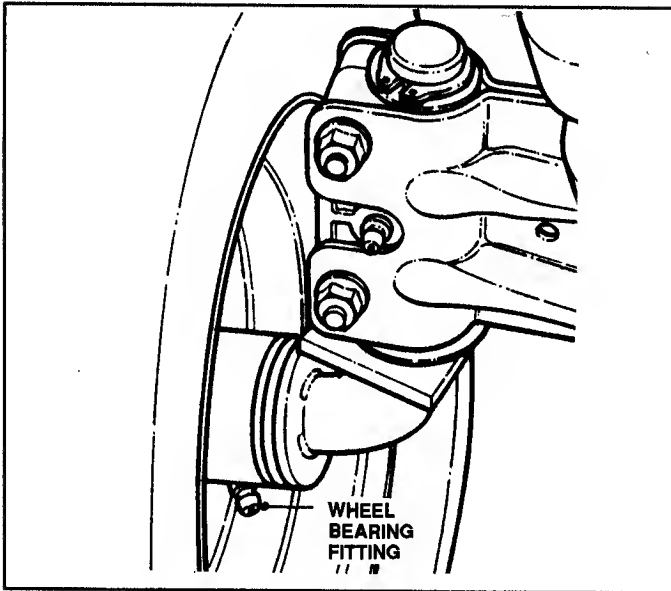

FIGURE 19
- **FRONT WHEEL BEARINGS:** Lubricate Bearings through the fitting on hub of each front wheel. See Figure 19.